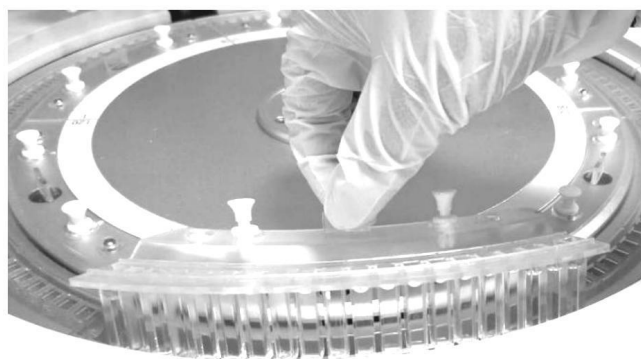

Figure 10-38 Replace cuvettes
- Remove the six groups cuvettes, as shown in figure 10-38.
- (c) Remove the six groups of cuvettes, placed in pure water or clean place, as shown in figure 10-38.